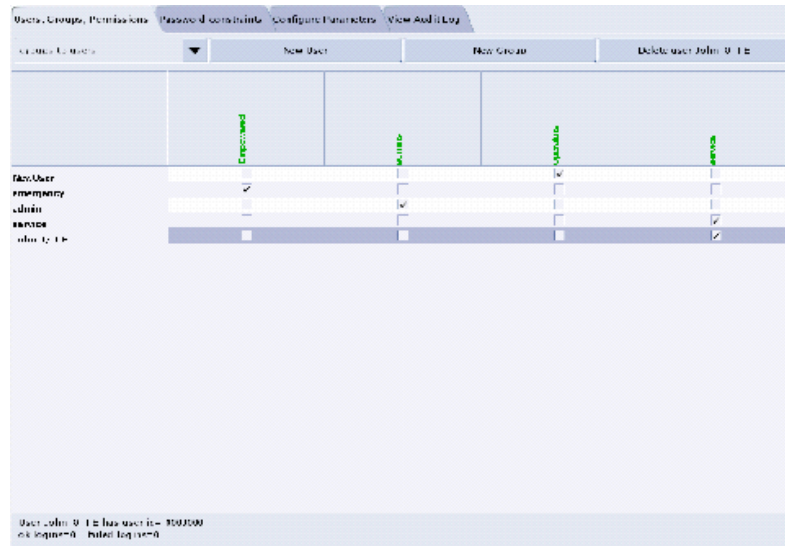

Figure 5-9 Using the User, Groups, Permissions screen
- 8.) If an account for a service user has been added, select groups to users from the pull-down menu, and assign the service user to group Service by selecting the check-box under Service in the row of the new user name, e.g., John_Q_FE (see Figure 5-9).